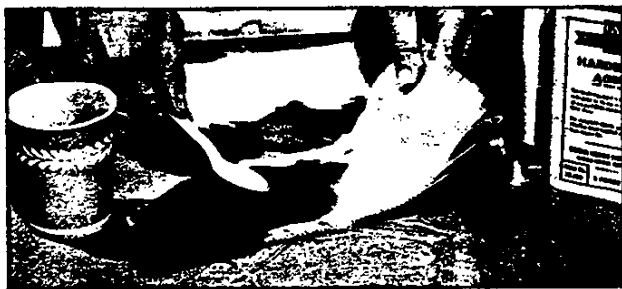

Fig. 53—Applying Resin Mixture to Fiberglass
7. Saturate layers of fiberglass (fig. 53). Place laminate over damage area. Smooth out wrinkles, and